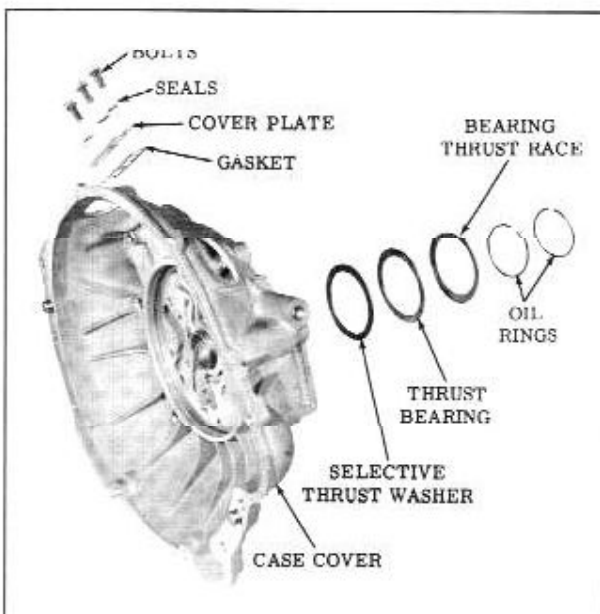

Fig. 3-78 Case Cover Assembly
1. Remove two lock type oil rings from the case cover hub. (Fig. 3-78)
1. Install the case cover plate and gasket using the three attaching bolts and bolt head washer seals, torque 18-20 ft. lbs. (Fig. 3-78)